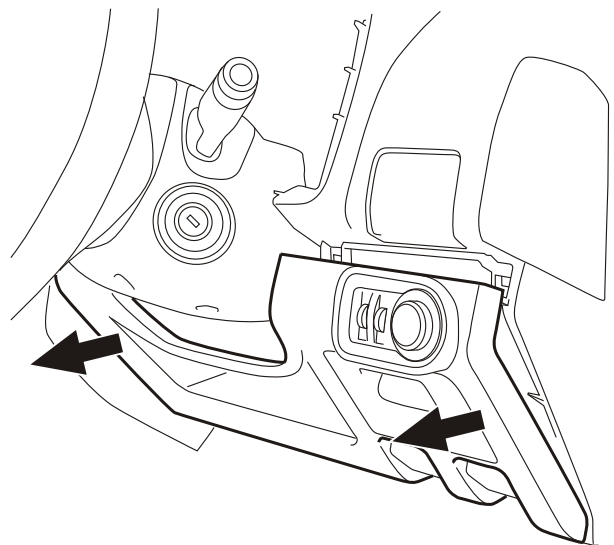

Figure 22
37. Carefully pull back to release the lower dashboard cover and allow to hang. Refer to figure 22.